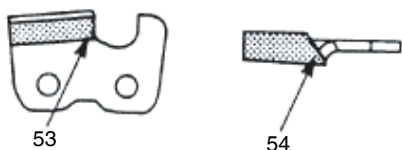

Fig. 43
- 6) File enough to remove any damage to cutting edges (side plate (53) and top plate (54)) of cutter. (Fig. 43)